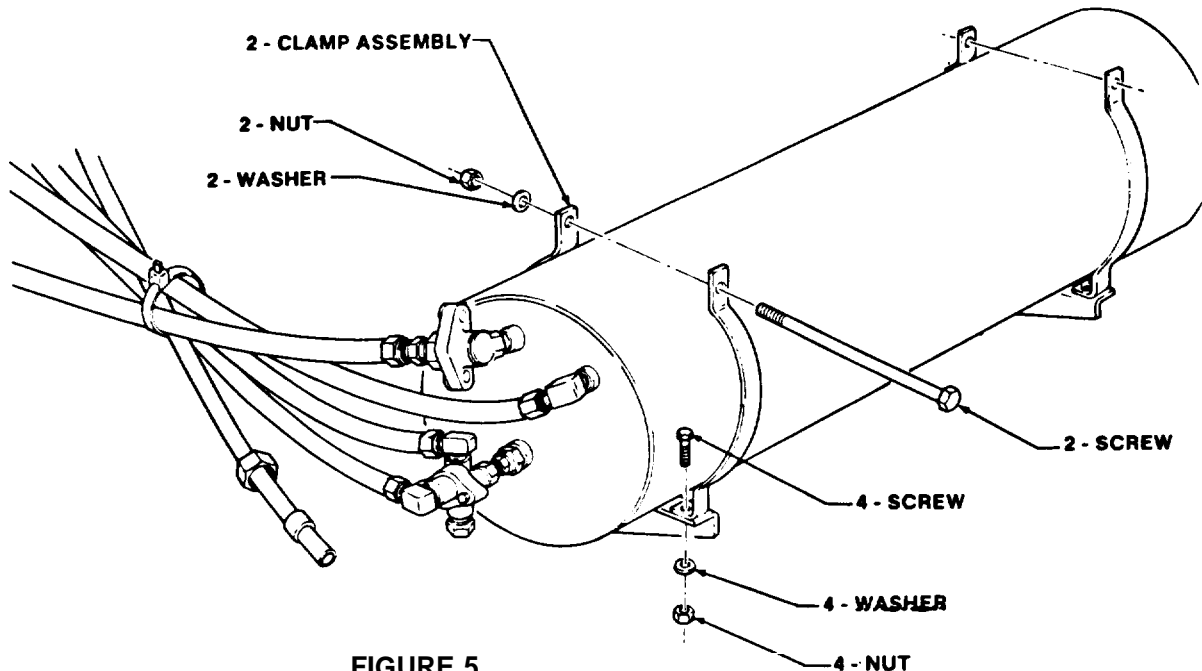

FIGURE 5
- (9) Remove two nuts, washers, and screws from two clamp assemblies as shown in figure 5.
- (10) Remove four nuts, washers, and screws from two clamp assemblies and remove clamp assemblies as shown in figure 5.